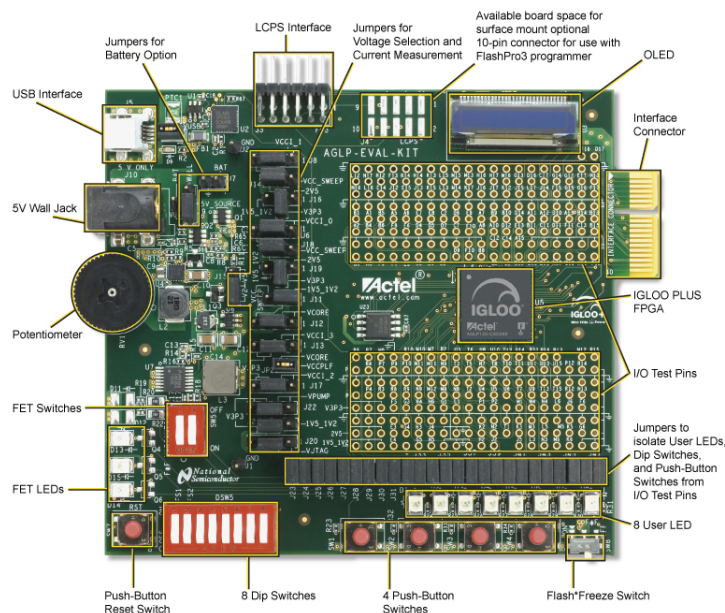

Figure 1-1 • IGLOO PLUS Starter Kit Board
The top of the board has a programming stick header which allows the low-cost programming stick (LCPS) to be attached to the board for programming the IGLOO PLUS AGLP125-CSG289 device (Figure 1-1). FPGA I/Os have been wired to test pin pads on the board for debug and expandability.
The IGLOO PLUS board is built on a 10-layer PCB. Figure 1-1 and Figure 1-1 on page 7 show the top (L1) and bottom (L10) silkscreens. The full PCB design layout is provided on the Microsemi SoC Products Group website, on the IGLOO PLUS Starter Kit page:
- Top Signal (Figure 1-1 on page 7)